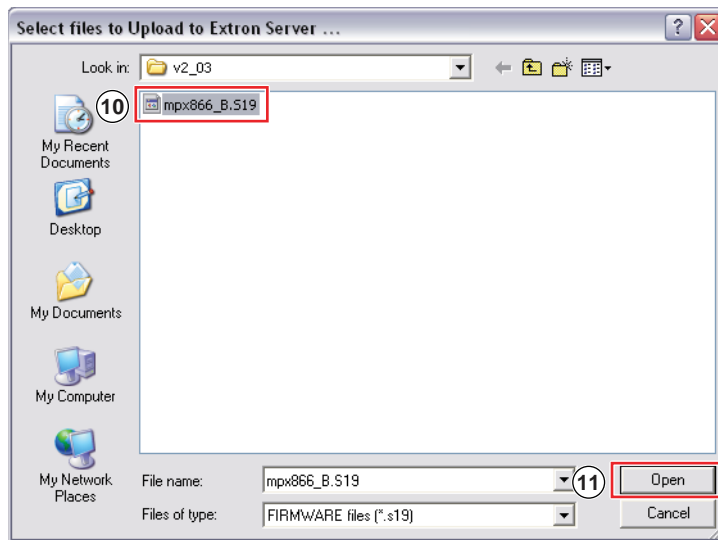

Figure 39. Select Files Window Dialog Box
- If the switcher is connected via the LAN port, the Select Files dialog box appears (see figure 39). See Ethernet-connected firmware upload, below.